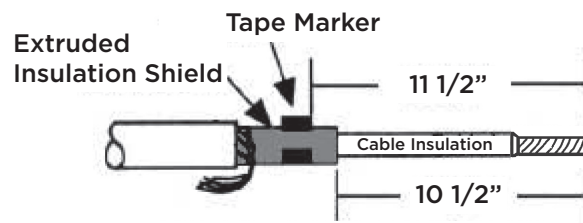

Fig. 5 - Shield Cutback
- D. Apply two layers of vinyl tape onto the insulation shield $11\frac{1}{2}$ " back from the end of the cable. This will serve as a temporary marker for locating the cable adapter. (See Figure 5.)